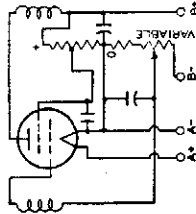

Fig. 86
Grid-bias variation for the rf and amplifier stages is a convenient and frequently used method for controlling receiver volume. The variable voltage supplied to the grid may be obtained: (1) from a variable cathode resistor as shown in Figs. 84 and 85; (2) from a bleeder circuit by means of a potentiometer as shown in Fig. 86; or (3) from a bleeder circuit in which the bleeder current is varied by a tube used for auto-